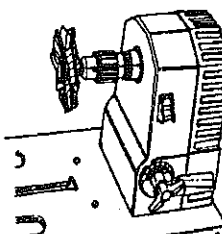

Fig.H-19
1. Turn off and unplug the Power Station then remove the safety key (35) from the switch.
2. Make sure the outer shaft cover (40) is installed over the outer drive shaft.
3. Remove the drive shaft hub (31) from the inner drive shaft.
5. Install the Flutter Sheet Sander in the drill chuck and tighten with the chuck key. See Fig.H-19. Use Speed Settings 5- 5-1/2.